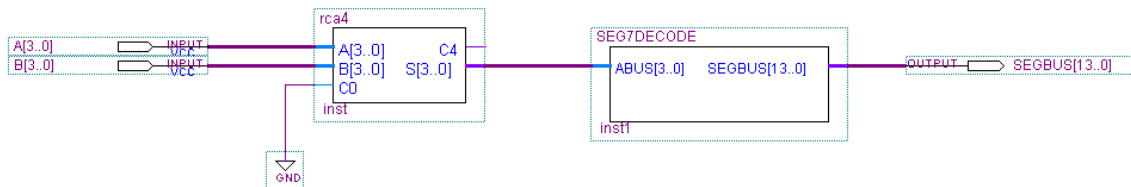

Figure 2: The lab6 project schematic
- a. **Draw** the top-level schematic for the **lab6** project shown in Figure 2. **Note** that input C0 has been “grounded” – attached to 0V permanently. You can find the “ground” symbol by typing GND into the library component-by-name search box.